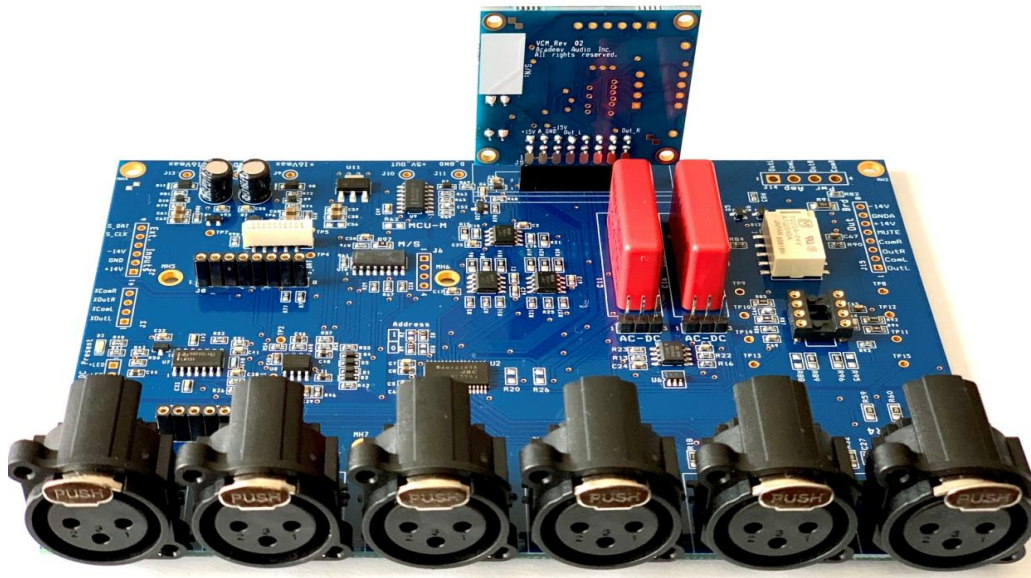

Figure 5.1. ISB board with VCM board installed.
- 5.1. Plug the VCM module into the J1 16-pin dual row connector as shown on the Figure 5.1. Make sure all 16 pins are fully engaged.